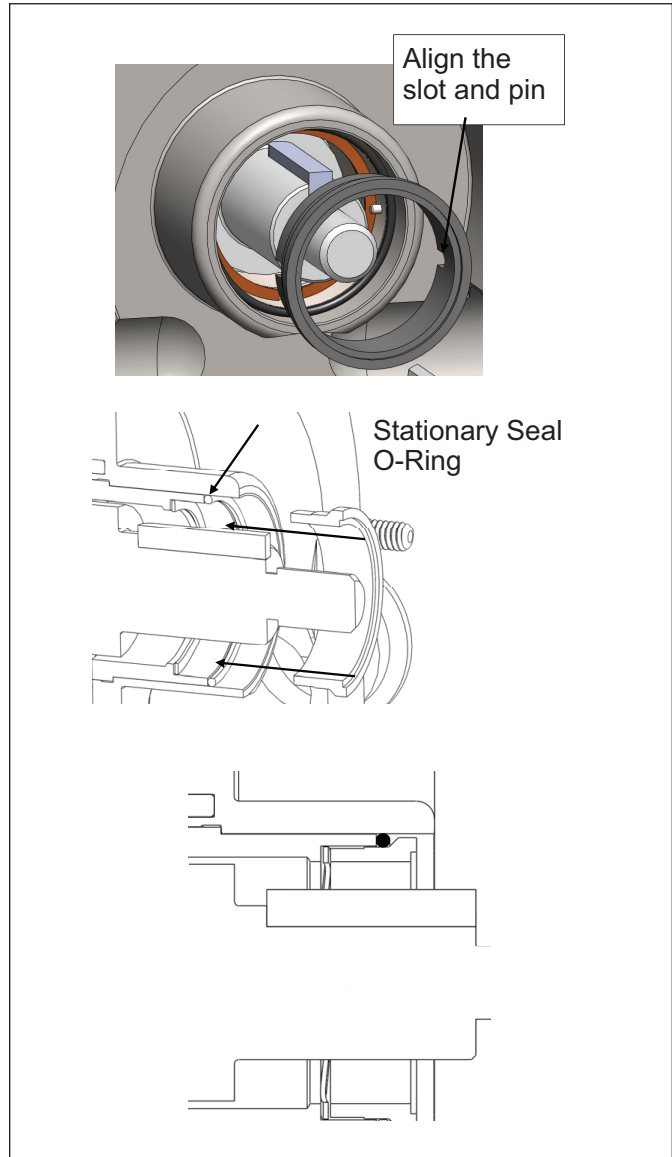

Figure 28. Stationary Seal Assembly
2. Slide the stationary seal o-ring into the body hub until it seats against the top of the sleeve (previously installed). Align the slots on the stationary seal with the pins inside the hub. Press the stationary seal into the hub until it seats on the spring; there should be noticeable spring resistance when pushing on the seal (Figure 28).